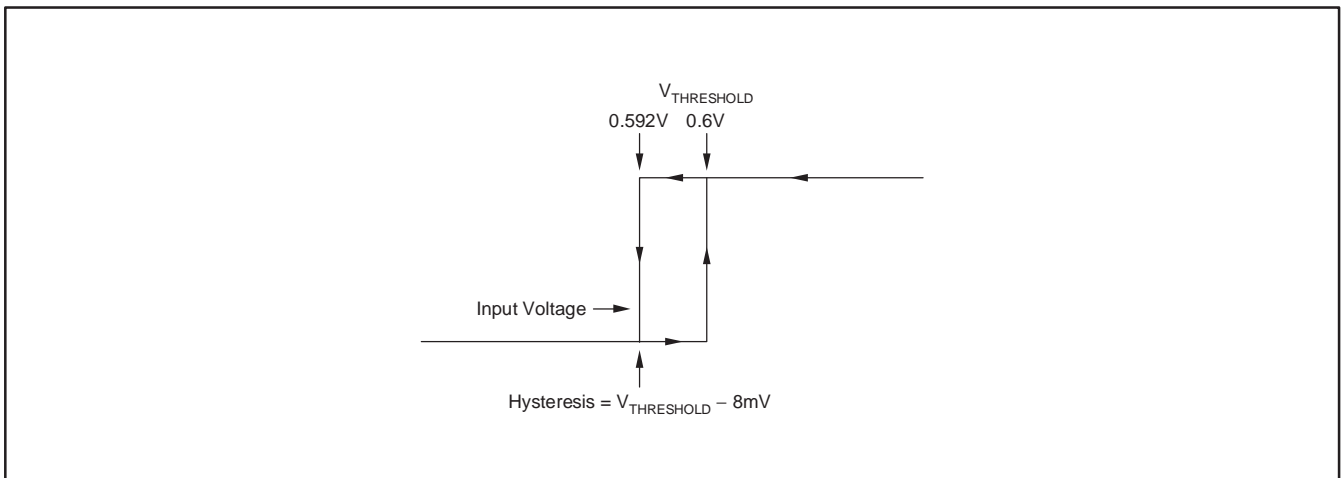

Figure 1. Typical Comparator Hysteresis
- (1) Hysteresis refers to the threshold (the threshold specification applies to a rising edge of a noninverting input) of a falling edge on the noninverting input of the comparator; refer to Figure 1.
- (2) Specified by design.
- (3) V_{ID} refers to the differential voltage at the comparator inputs.
- (4) Open-drain output can be pulled to the range of +2.7V to +18V, regardless of V_S .
- (5) The comparator response time specified is the interval between the input step function and the instant when the output crosses 1.4V.
- (6) The RESET input has an internal $2\text{M}\Omega$ (typical) pull-down. Leaving RESET open results in a LOW state, with transparent comparator operation.